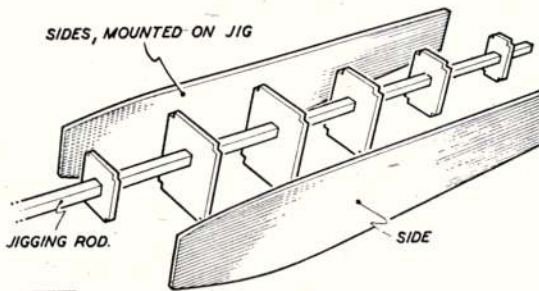

FIG. 11
Other methods demand the use of formers—either false formers of card which hold the two sides whilst the spacers are located and are then removed; or sheet formers which become an integral part of the structure—Fig. 10. An extension of the former method is shown in Fig. 11, favoured by some Wakefield builders, where the false formers are mounted on a stout jiggling rod which does ensure a really accurate line-up.
**Families of Curves.** Fig. 11 shows the construction for a family of curves as required in bulkheads, ribs, etc. In the example, curve AB has been drawn and it is desired to draw a "mating" curve between C and D. Any point E is chosen on BG produced and point F on AG produced. Lines AE, CE, BF and DF are drawn. The construction to transfer a point from the known curve AB to the required curve CD is shown. Note that these construction lines are all either horizontal or vertical.